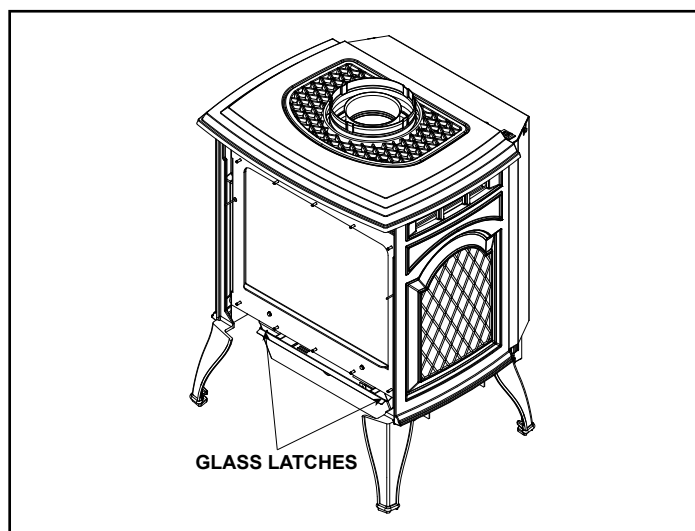

Figure 4.2 Remove Glass Frame
- Release both glass latches at the lower corners of the appliance. Remove glass from appliance. See Figure 4.2.